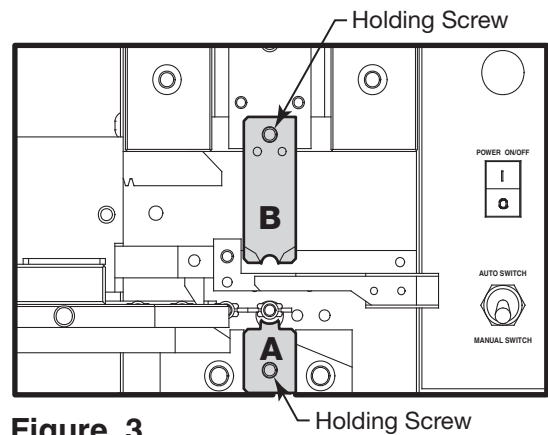

Figure 3
- 2) Remove the holding screws, remove die A and die B (Figure 3).
- 4) Add new dies and tighten holding screws, refer back to Figure 3. **IMPORTANT:** Make sure the text on the die is facing towards the operator.